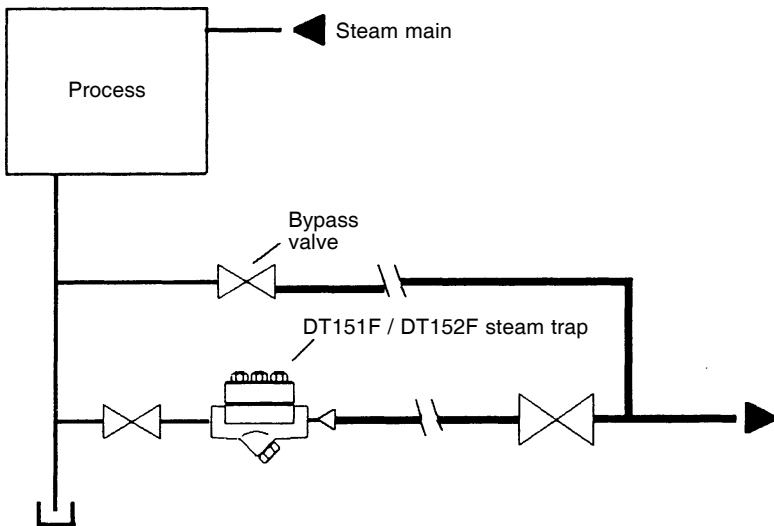

Fig. 1 - Process drain with discharge piped to recovery.
- 3.6** If continuous operations are required or for easier maintenance work, a stop valve can be installed upstream, one downstream and another in bypass (see fig. 1).